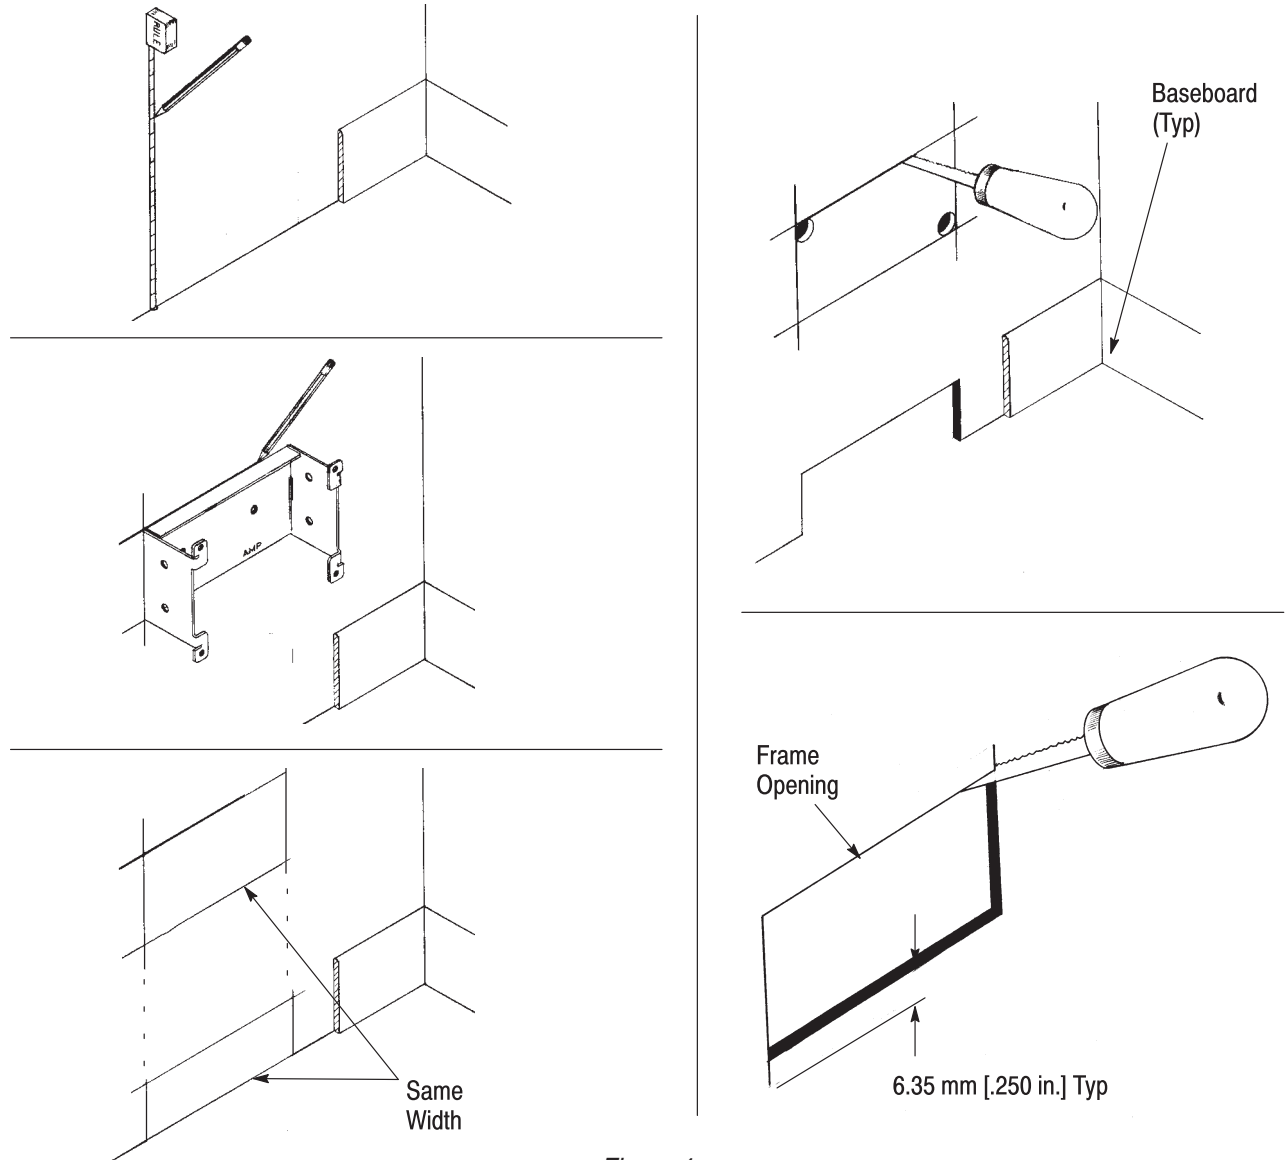

Figure 1
1. Mark wall where bottom of transition frame is desired. See Figure 1.
- Added callout to Figure 1